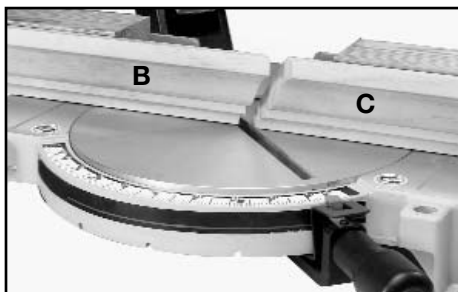
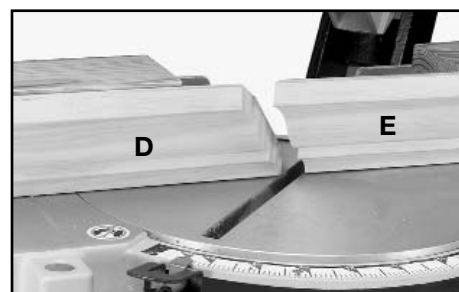

Fig. 35
Fig. 36
6. Fig. 35 illustrates the miter saw arm in the 45 degree right miter position and the filler blocks fastened to the fence so that the moulding will be in the same position as it would be when nailed between the ceiling and wall.
To cut the mating pieces for mouldings (B) and (C) Fig. 35, rotate the miter saw arm to the 45 degree left miter position and make the cut (Fig. 35). In this case the moulding (D) Fig. 36 on the left of the saw blade will be for an inside corner and the moulding (E) on the right of the saw blade will be for an outside corner.